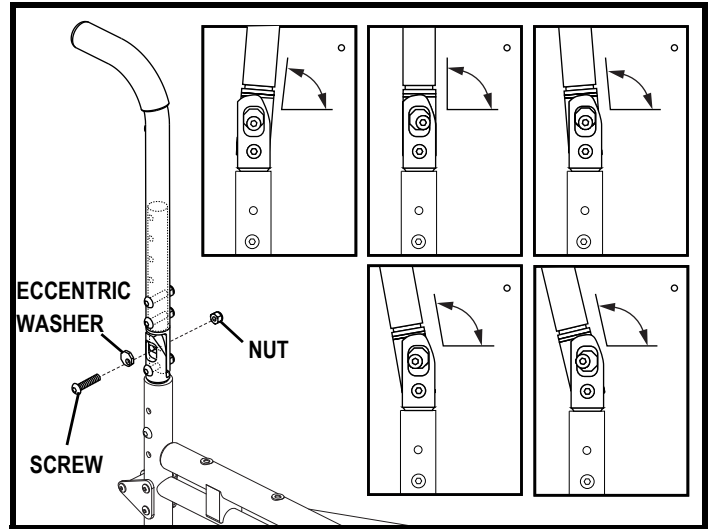

Figure 21. Seatback Angle Adjustment
Your wheelchair may be equipped with angle adjustable back canes that allow you to adjust the seatback to one of five different angles. The angle adjustment range is 85°-105° in 5° increments. See figure 21.
1. Remove the top screw and nut from the back cane and loosen the lower screw. See figure 21.
2. Rotate the eccentric washer to the appropriate position that represents the desired angle. See figure 21.